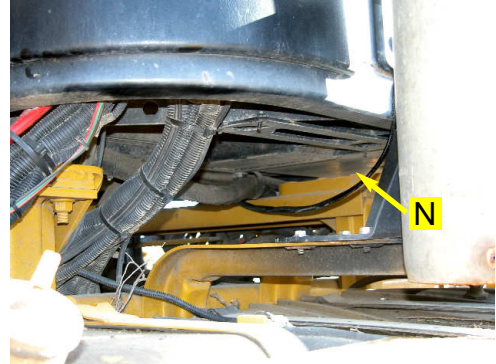

Figure 7b. Valve cable routed under the cab.
- b. Route the DIN connectors underneath the cab and over the Automated Steering Block. (Figure 7b.)